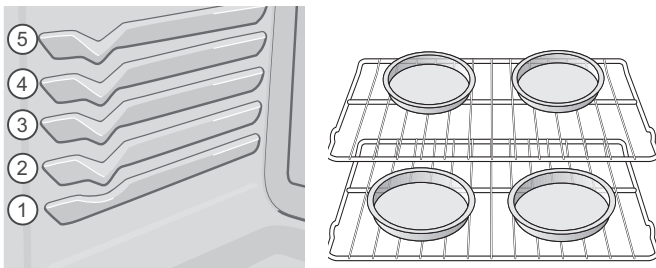

Figure 15: Rack positions and pan spacing recommendations
- When baking using 2 oven racks, position bakeware as shown in Figure 15. Allow at least 2 inches (5 cm) of space between bakeware for proper air circulation.